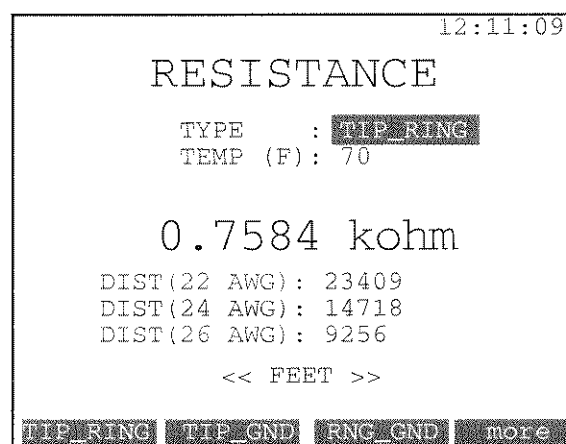

Figure 6-21 Loop Resistance Screen
- 6) The screen is shown in Figure 6-21.